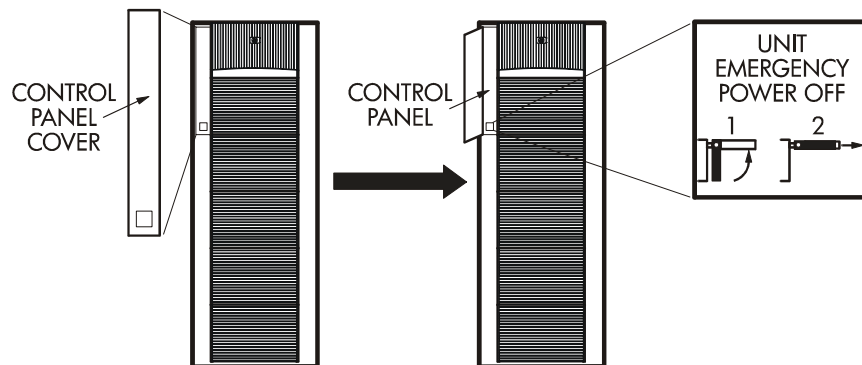

Figure 11. Pulling Unit Emergency Power OFF Switch
2. Pull the emergency power-off switch (Figure 11 on page 65) up and then out towards you as illustrated on the switch.